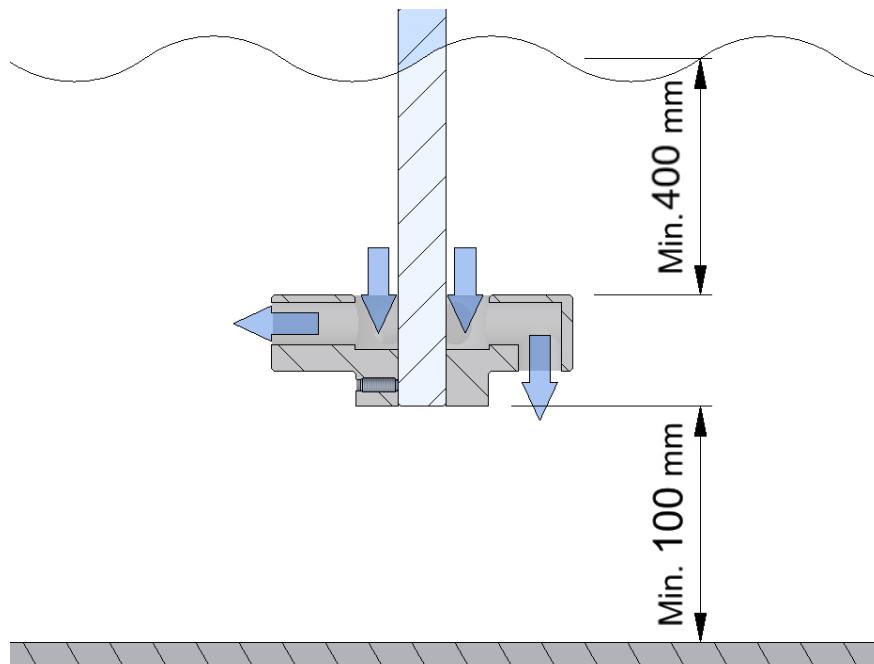
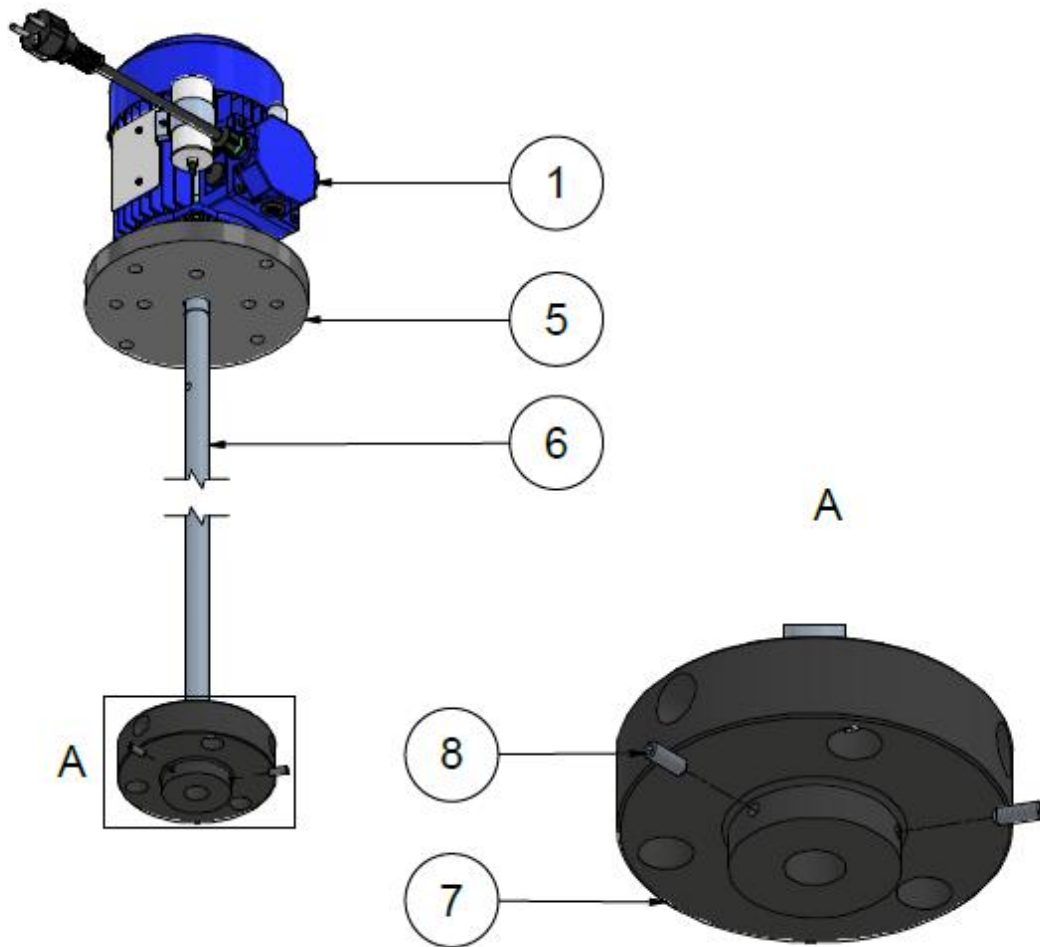

Figure 3 Position of the mixing disc
Figure 4 Assembly of the Enmix light
The rotation of the mixer shaft and the mixing disc sets the liquid in the reservoir in motion. The mixing disc takes in the liquid from above and then sends the liquid downwards and to the side via the channels in the mixing disc. In the disc there are 3 channels towards the bottom of the disc and 3 channels directly to the side of the mixing disc. This causes the liquid to move as shown in Figure 3. The standard direction of rotation of the mixing disc is clockwise (viewed from above).
the numbers between parentheses referring to the numbers and parts in Figure 4.
- Measure the depth. from the surface where the mounting plate (5) is assembled to, to the bottom of the reservoir.
- Shorten the shaft (6), if necessary, and ensure that the mixing disc (7) is as deep as possible and at least 400 mm above the bottom of the fluid reservoir.
- The shaft (6) can be shortened using a hacksaw or cutting disc.
- Insert the shaft (6) through the opening in the mixing disc (7).
- Please note that the suction side is facing to the top (see Figure 4).
- Fix the mixing disc (7) to the shaft (6) using two stainless steel set screws m6x16 (8).
- Attach the mounting plate (5) to the reservoir or a structure above this.
- Ensure the mixing disc rotates +/- 100 mm from the bottom of fluid reservoir (see Figure 3)
- Assemble the mixing disc following Figure 3 and Figure 4. If the assembly of the mixing disc is done in the wrong way, the fluid can be sprayed upwards. This could create dangerous situations.